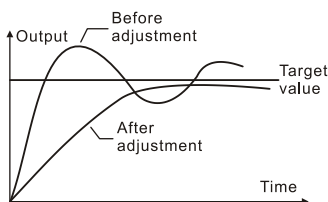

Figure 6-15 Suppress Output Exceeding of PID Control
F133 and F134 must be used in coordination with F060, F061 and multi-function output terminal and mainly used for addition and reduction of auxiliary pumps. Refer to Figure 6-15 for details.
- 6) Refer to the descriptions in Figure 6-15/6-16 for specific application.